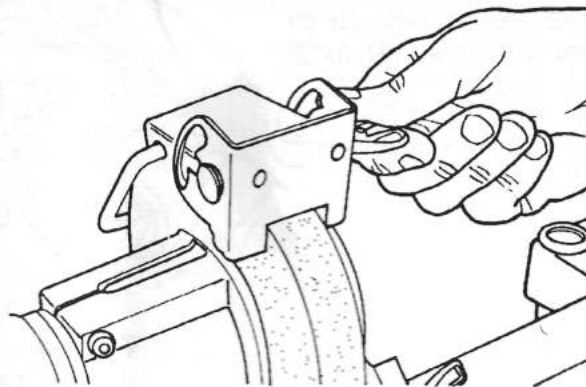

Fig. 26
25. The tool rest not used for supporting tools during operations, becomes a "spark guard." Adjust the tool rest as shown in Fig. 26, where the notch in the "spark guard" is 1/16" above the wheel. When sparks appear during operations, the "spark guard" helps contain the sparks and shield the operator's hand from them.